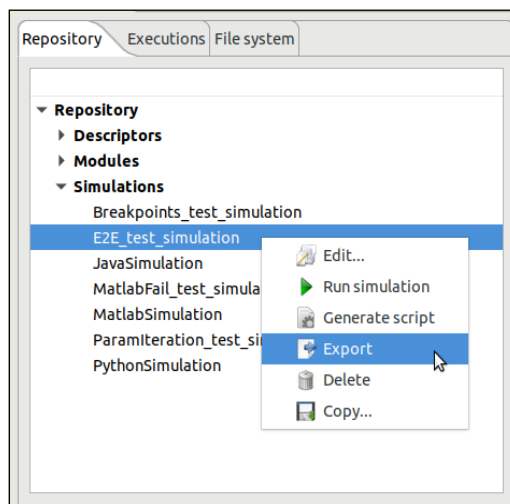

Figure 4-120: Export from the repository menu
1. From the **Repository** menu. In this case, we need to navigate from the "Repository" menu down to the simulation that the user wishes to export. Next, right-clicking over it; the "Export" option appears for selection. This is illustrated in Figure 4-120 below.